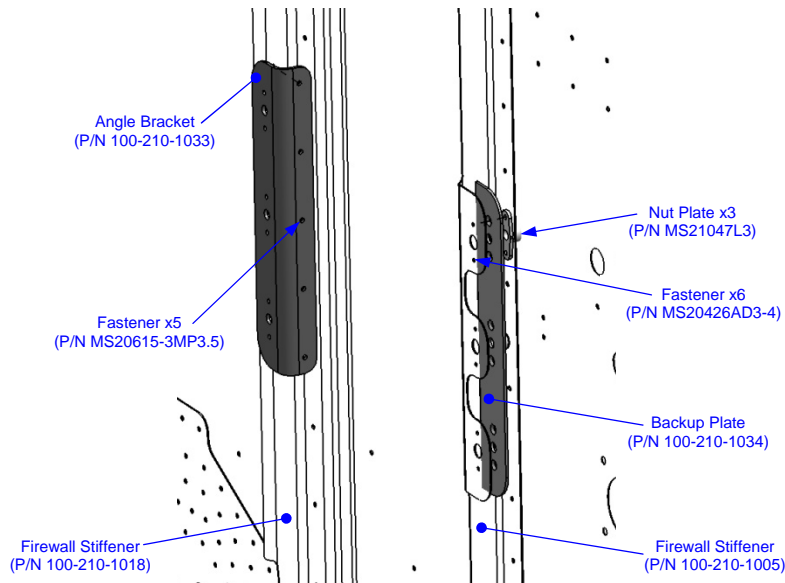

Figure 4-1: Battery Box Bracket Installation
Position and secure the backup plate (P/N **100-210-1034**) and three (3) nut plates (P/N **MS21047L3**) using six (6) **MS20426AD3-4** fasteners; refer to **Figure 4-1**. This installation is mirrored on the opposite side of the aircraft.
Position and secure the aluminum angle bracket (P/N **100-210-1033**) using five (5) **MS20615-3MP3.5** fasteners; refer to **Figure 4-1**. This installation is mirrored on the opposite side of the aircraft.